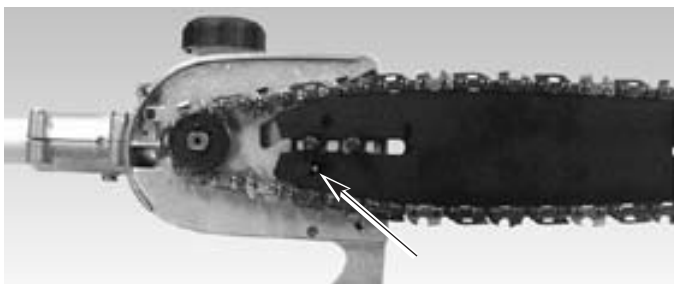

Fig. 10
5. Adjust the tension adjustment screw (Fig. 8b) to allow insertion of the bar (Fig. 10). Make sure the chain follows the slot in the guide bar and adjust the tension adjustment screw to make the chain tighten.